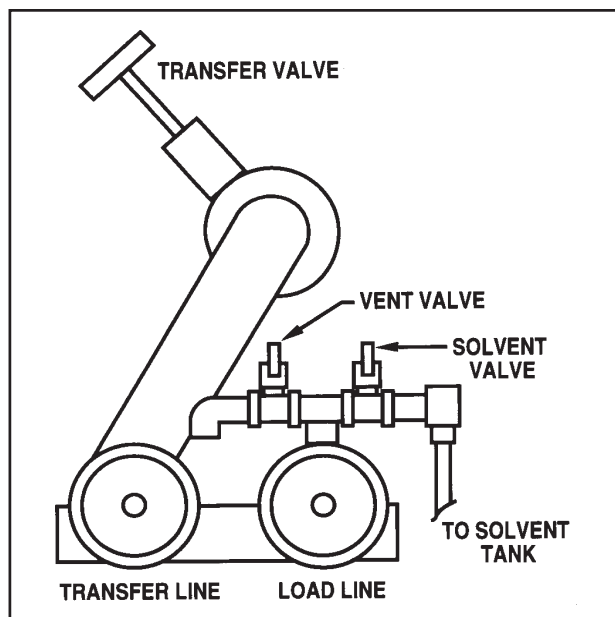

FIGURE 3-38. TRANSFER LINE & LOAD LINE
3. Check the Transfer Valve and be sure that it is closed (Figure 3-38).